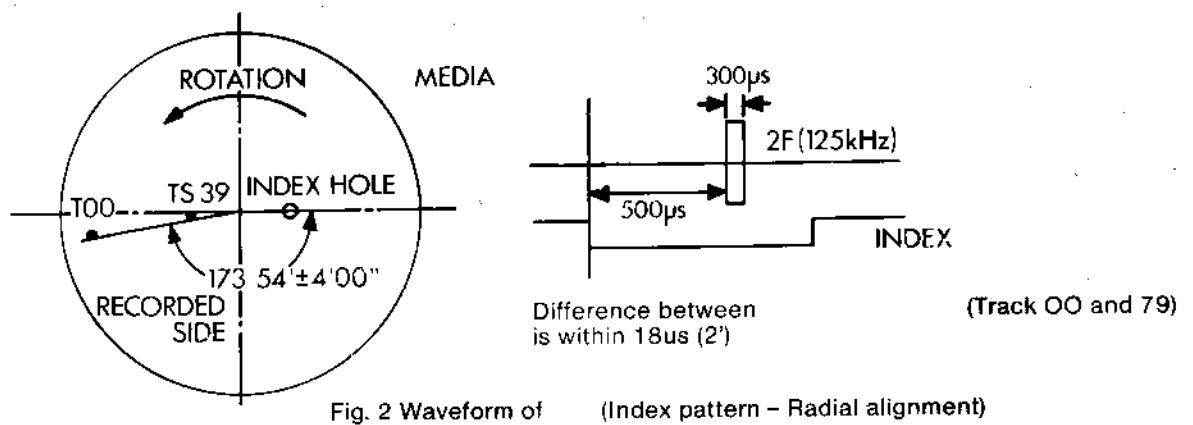

Fig. 2 Waveform of (Index pattern – Radial alignment)
2. Adjustment of the index burst by use of Track 79, 159. Fig. 2.	<input type="radio"/>
- 4) Adjust OO Sensor (8 on Fig. 6) so that scope shows correct difference as Fig. 2.